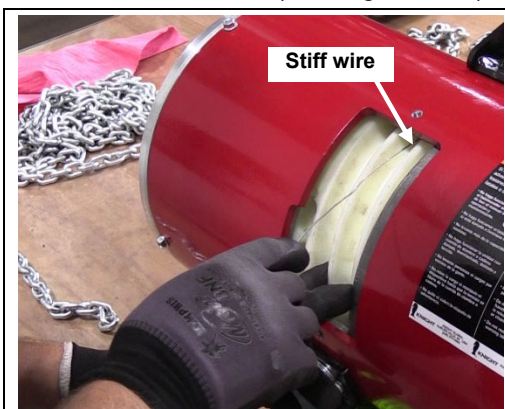

Figure 4-28
Step 13. Connect a stiff wire to the last chain link on new load chain and thread the wire around the top of the third to last groove from the left until it is visible through first groove on the left and the load spool chain seat is visible. (See Figure 4-28)